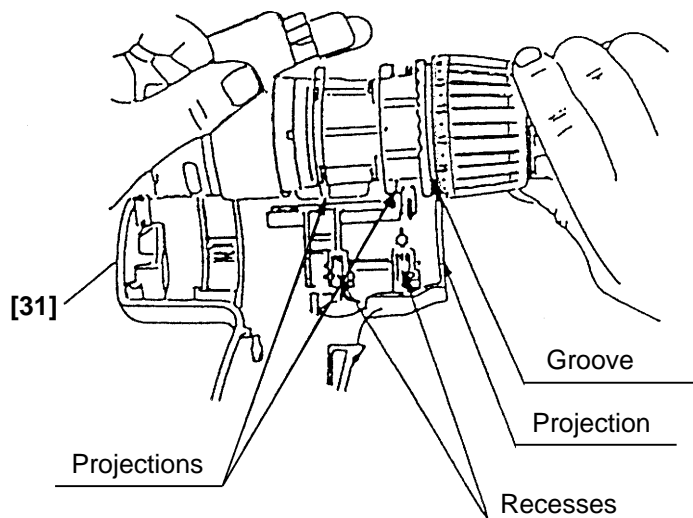

Fig. 15
- (b) Install the assembly reassembled in step (3) into Housing (A) **[31]**. Note that the projections on the Front Case **[9]** and the Motor Spacer **[24]** are engaged in the recesses in Housing (A) **[31]**, and the projection on Housing (A) **[31]** is engaged in the groove of the Cap **[4]**. (See Fig. 15.)